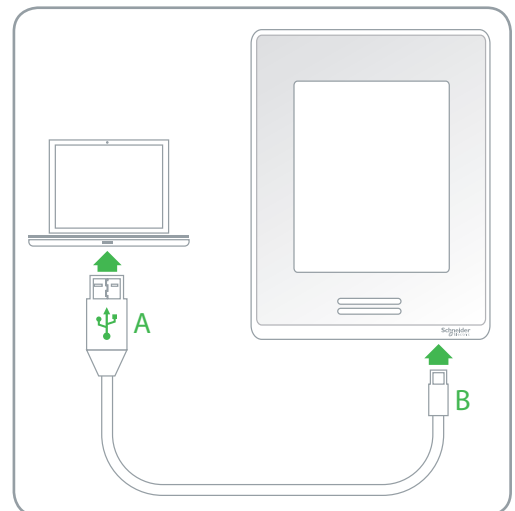

Figure 1. Connect Room Controller to system
1. Connect Computer to SE8000 Series Room Controller using USB 'A' to Micro-USB 'B' cable (Figure 1).